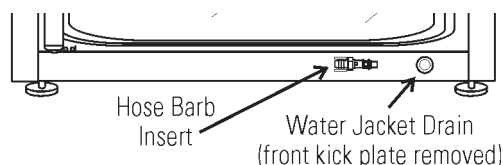

Figure 5-10. Water Jacket Drain and Hose Barb Insert
5. After water jacket has finished draining, remove the hose barb insert and secure on the front of the unit. See Figures 5-10 and 5-11.